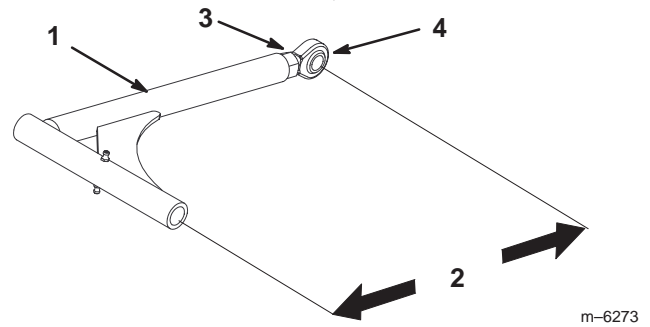

Figure 55
1. Loosen the jam nut and rotate the ball joint counterclockwise, one turn at a time (Fig. 55).
2. Adjust each side the same amount. Each push arm should have a nominal length of 15-5/16 in. (389 mm) (Fig. 55).